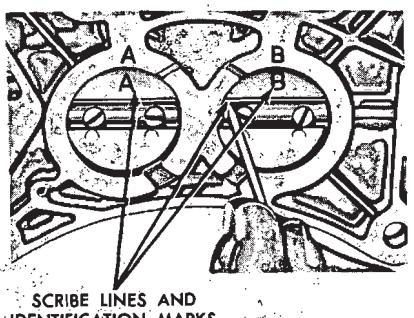

FIG. 16—Throttle Plate Removal
11. If it is necessary to remove the throttle plates, lightly scribe the throttle plates along the throttle shaft, and mark each plate and its corresponding bore with a number or letter for proper installation (Fig. 16).